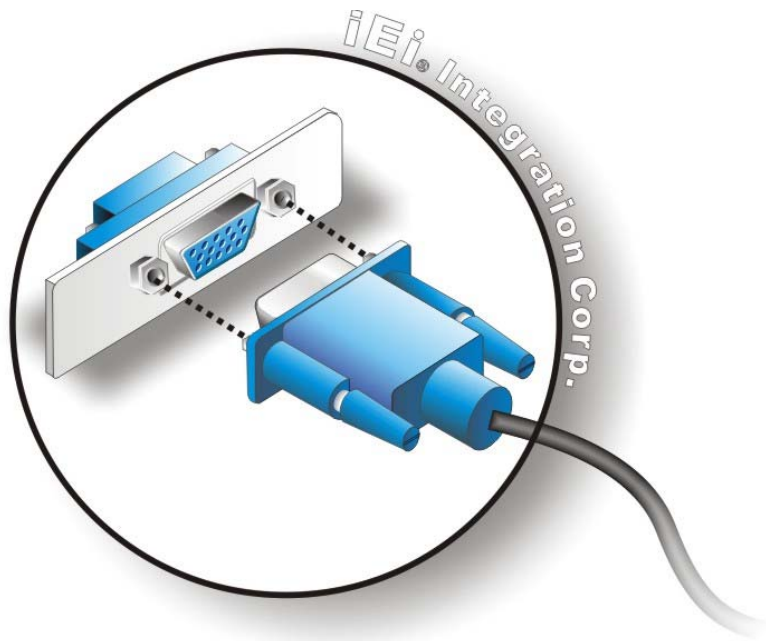

Figure 4-26: VGA Connector
- Step 3:** **Insert the VGA connector** Once the connectors are properly aligned with the insert the male connector from the VGA screen into the female connector on the KINO-AA750-i2. See **Figure 4-26**.